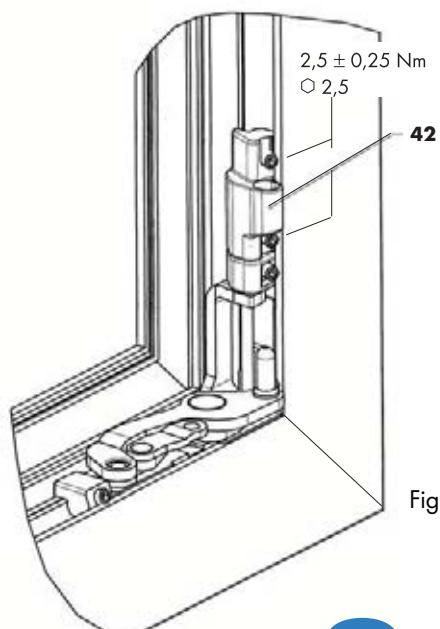

Fig. 2
- H** Position striker VSO (4/16) with striker jig LM and fix in place with grub screws M5. (Torque $2.5 \pm 0.25 \text{ Nm}$) (Fig. 2).
and position it on the axxent bottom hinge as shown in the adjacent diagram (fig. 2).